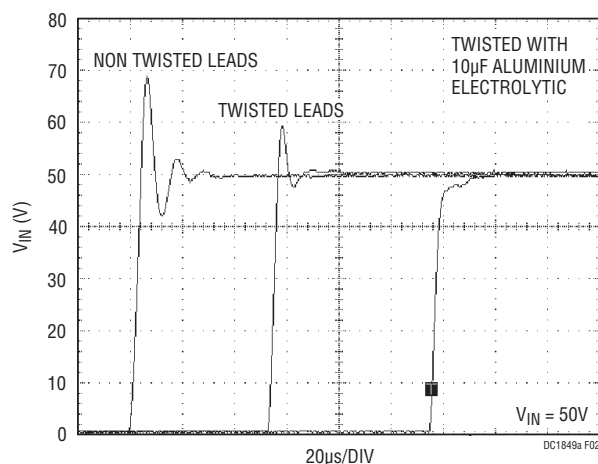

Figure 2. Hot Plugging Input Voltage Transient Using 12" Leads.
**power supply that has more than 40V present at its output can produce a high voltage transient that may exceed the absolute maximum input voltage. These transients are caused by the inductance of the input leads and the ceramic input capacitor. When bench testing this circuit, a 10 $\mu$ F/100V electrolytic capacitor is recommended at the input terminals. See Figure 2.**
**Note: A 10 $\mu$ F/100V electrolytic capacitor is necessary when evaluating circuit with input voltages greater than 40V, using long input wires and hot plugging circuit into a powered input supply. See Figure 2.**
**ISET Components:** C3, R3 and R4 are used to provide a number of features and circuit enhancements such as, output current limit, input current limit, optimizing output ripple voltage reduction and efficiency improvement. R4 sets maximum output current, see Figure 2 in LTC3630 data sheet, leave open for maximum load current. R3 and